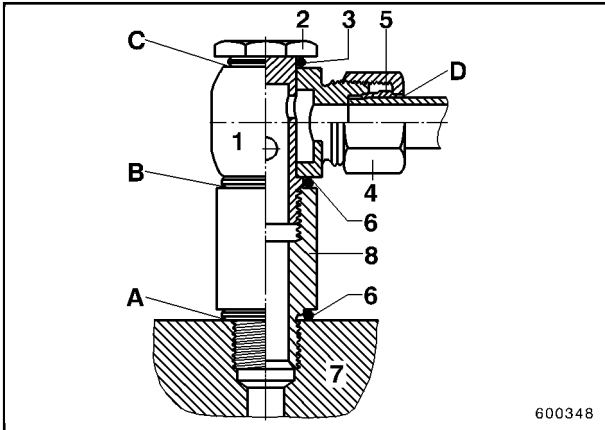

Fig. 3
When tightening the hollow screw, make sure that body (1) is at right angles to connecting surface (7) or nipple (8, Fig. 3), as the sealing rings (3) and (6) cannot otherwise fulfil their function. The connecting surface must be clean, even and at right angles to the threaded port for the hollow screw. Before tightening the hollow screw (2), it is advisable to loosen the union nut (4) slightly so that no stress forces are transferred through body (1) into the connected pipe.
Banjo coupling with long male adaptor (Fig. 3)
The banjo coupling screwed into the adaptor (8, Fig. 3) comprises the same components as described under "Banjo coupling".